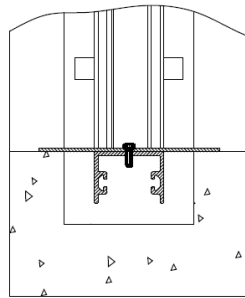

Figure 3
- Align the unit vertically and make sure that the frame is flush with the invert of the channel. The frame includes two threaded holes, which must be used to secure vertical alignment supports (see Figure 3). Note that the supports are not supplied, unless otherwise specified (two metal or wooden plates are required).
- Align the unit horizontally and make sure that the Frame Guide is flush with the channel side wall. Additionally, make sure that the gate is perpendicular to the side walls of the channel (See Figure 3). For aluminum frames, use wooden wedges to center the unit in the recess. As an option, stainless steel frames include "Lateral Centering Fittings". In that case, adjust the hex bolts for centering the frame.